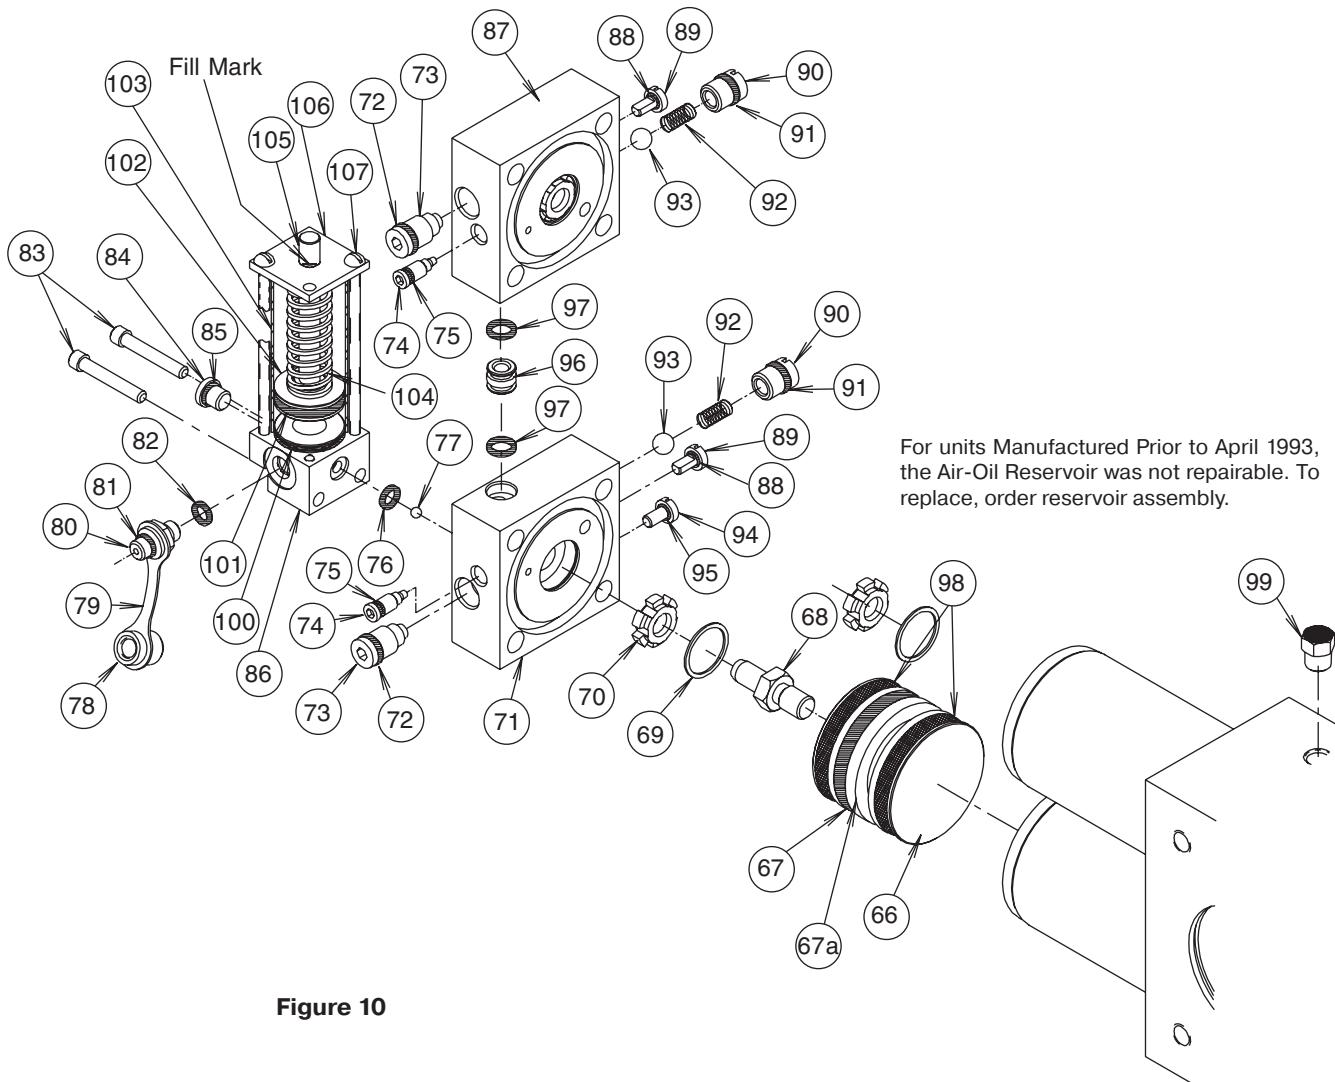

Figure 10
Air / Oil Option (6) (See Figure 10)
Parts List (Figure 10)